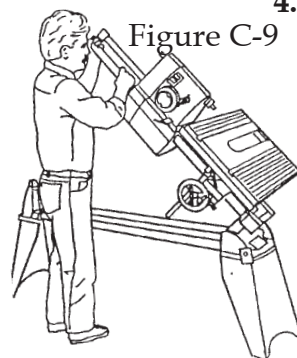

Figure C-9
4. Tighten the headstock and carriage locks. Place the Mark 7 in the vertical position by loosening the Power Base Mount knob, firmly grasping the way tubes near the power base mount end, and lifting the tubes into the 90° position, as demonstrated in Figure C-9.